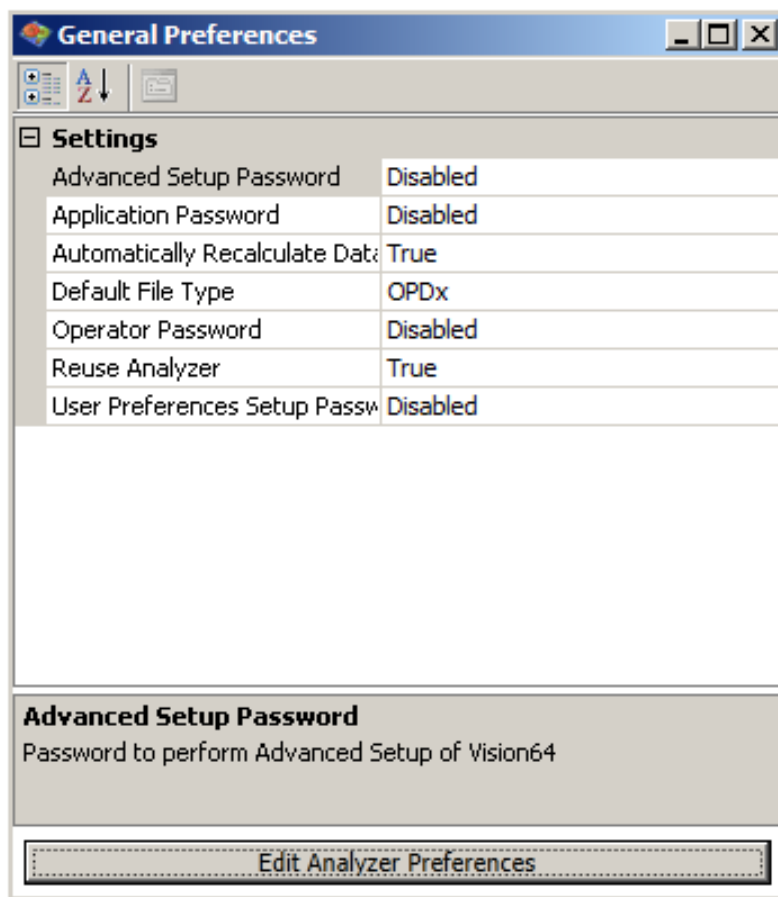
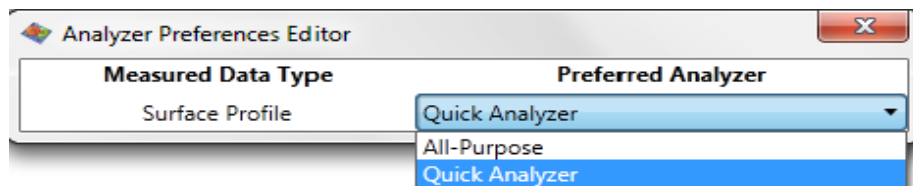

Figure 6-11: General Preferences Dialog Box
Figure 6-12: Analyzer Preferences Editor with Quick Analyzer Selected
- 3 Click **General Preferences**. The **General Preferences** dialog box appears (see Figure 6-11).
- 4 Click **Edit Analyzer Preferences** at the bottom of the dialog box (see Figure 6-11). The Analyzer Preferences Editor appears (see Figure 6-12).
- From the drop-down list, select **Quick Analyzer** (see Figure 6-12). The following warning message appears. Click **Continue**.